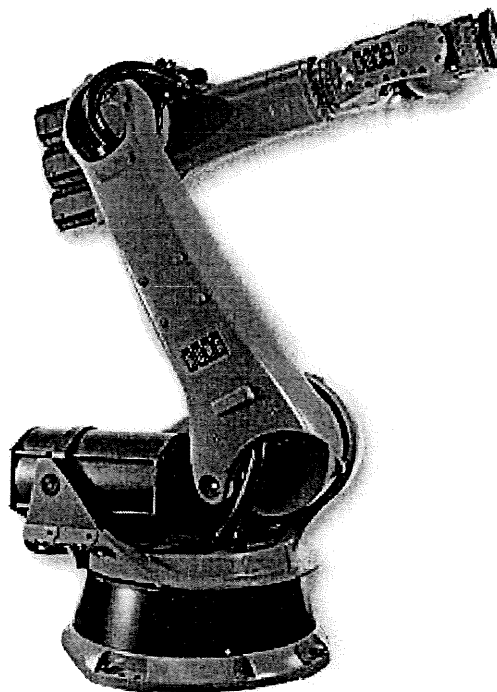

Figure 1: KUKA Robot
- a) Regarding the robotic arm shown in Figure 1, identify the links and joints of the robotic arm. *(You need to sketch for each link and joint of the robot).*